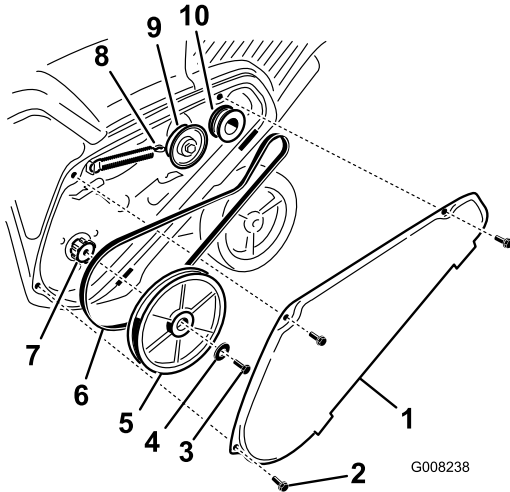

Figure 37
1. Remove the drive belt cover by removing the 3 bolts as shown in Figure 37.
2. Unhook the brake spring from the idler arm to release the belt tension (Figure 37).
3. Remove the screw and curved washer that holds the rotor pulley (Figure 37).
4. Remove the rotor pulley and the drive belt (Figure 37).
Note: Route the new drive belt first around the engine pulley, then the idler pulley, and finally around the loose rotor pulley positioned just above the rotor shaft (Figure 37).
6. Install the rotor pulley onto the rotor shaft (Figure 37).
7. Install the curved washer and the rotor pulley bolt and tighten them securely (Figure 37).